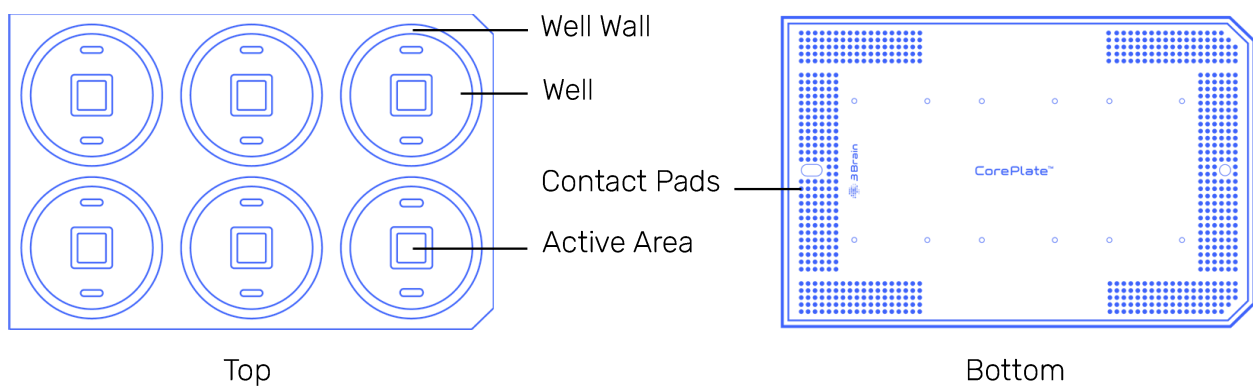

Figure 1: Diagram of the top and bottom of CorePlate™ 6W.
- Do not touch the contact pads on the bottom of the plate (see Fig. 1). Always handle CorePlate™ 6W by using plastic gloves.
- Do not touch the Active Area (see Fig. 1) of the microchip integrated in each well of the CorePlate™ 6W with any tools except those specifically allowed (see section “Cleaning Procedure for CorePlate™ 6W”). In particular, hard or semi-hard objects (e.g. metal or plastic tools) can irreparably damage the electrodes and the on-chip circuits.
- Before inserting CorePlate™ 6W into the HyperCAM Alpha, clean the contact pads on the bottom of CorePlate™ 6W (Fig. 1) with a lint-free wipe soaked in isopropanol (IPA) >99.5% and let it dry for a few seconds.
Avoid Wetting the Contact Pads. While cleaning CorePlate™ 6W, it is highly recommended not to wet the contact pads on the bottom of the plate (see Fig. 1).
If the chips of CorePlate™ 6W remain dirty after the standard cleaning procedure, you may have to repeat this procedure, including gently brushing the surface of each Active Area (see Fig. 1) with a soft, clean paintbrush during the Detergent Application step. Be aware that this operation can damage the Active Area of the chip and is advised only as a final option if the standard cleaning procedure fails to fully clean the chip. Ensure that the paintbrush is completely clean to avoid introducing more debris into the environment, and ensure that brushing is performed very gently and with utmost care to minimize the risk of damage to the electrodes.
Avoid Wetting the Contact Pads. While hydrophilizing CorePlate™ 6W, it is highly recommended not to wet the contact pads on the bottom of the plate (see Fig. 1).
1. **Rinse Wells with 70% EtOH.** Rinse the wells of CorePlate™ 6W (Fig. 1) thoroughly with 70% EtOH and delicately flush the liquid on each Active Area with a Pasteur pipette.